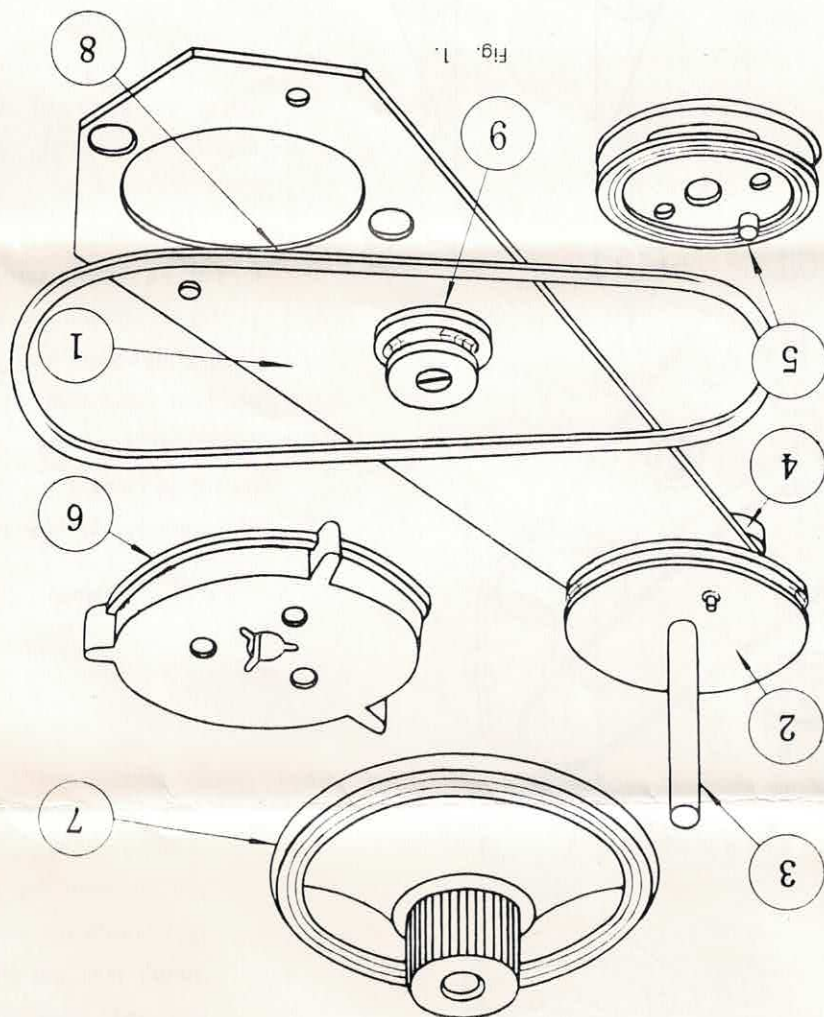
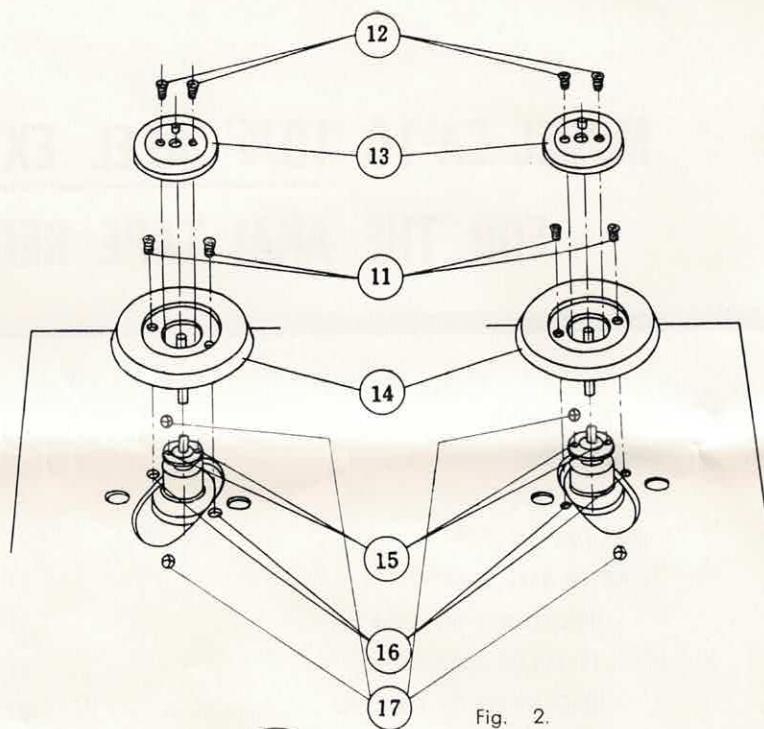

Fig. 1.
Fig. 2.
1. COMPONENT PARTS: (Refer to Fig. 1.)
2. Preparation : (Refer to Fig. 2.)
Set the Reel Adapter Arm in Holes (17) shown in Fig. 2 using Motor set screws (17). By using reel table set screws (12) previously removed in Fig. 2, 7" reel table with groove for Belt (5) mentioned in Fig. 1 of "Accessories" shall be put in holes (15) of Fig. 2 and be tightened.